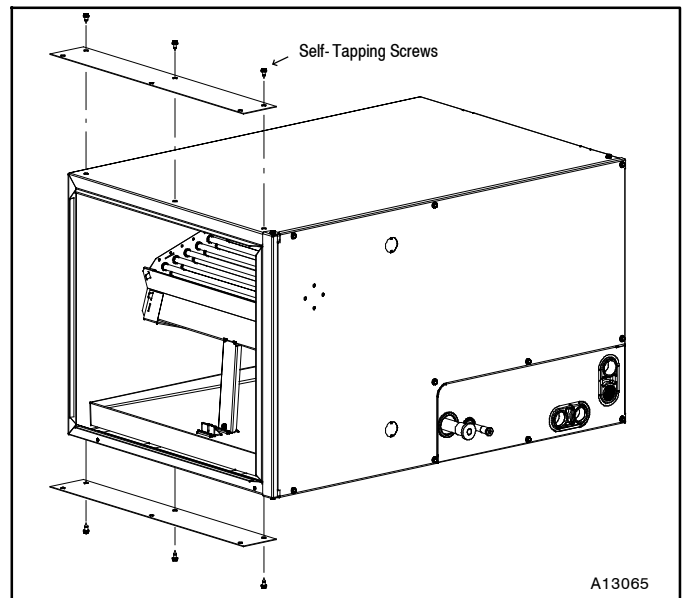

Figure 5 - Horizontal Right Installation
1. Use field fabricated attachment plates to secure coil to furnace. (See **Figure 5**)